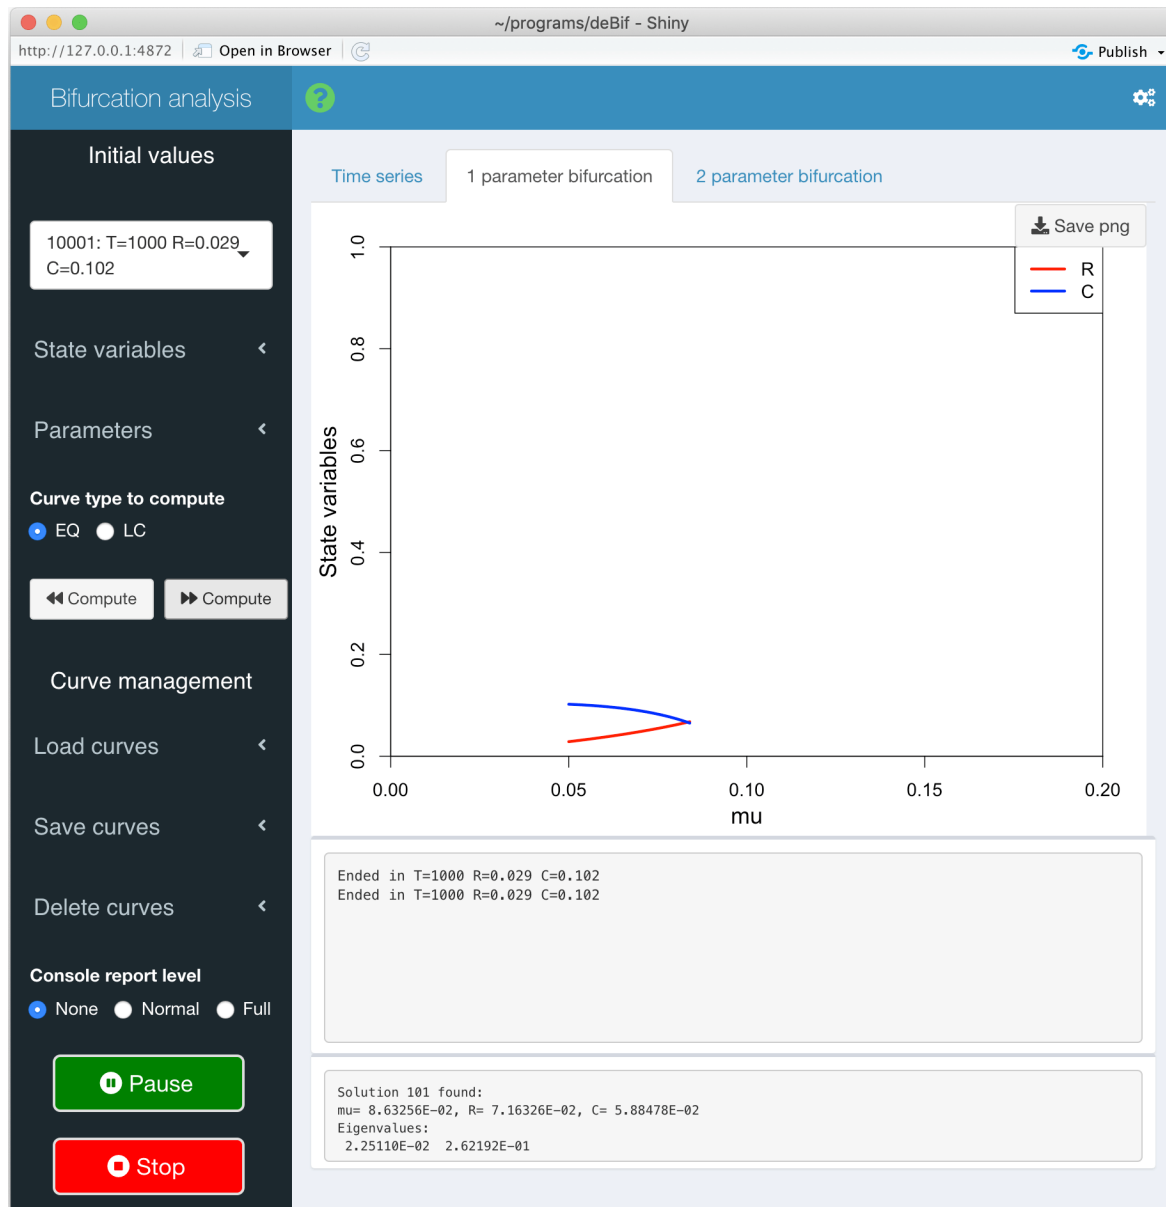

Figure 15: The 'bifurcation()' application while it is busy computing an equilibrium curve
Computations are started by clicking either the `<<Compute` or the `>>Compute`, which will start to compute the equilibrium curve originating from the initial point in the direction of lower and higher values of the bifurcation parameter, respectively. During the computation of a curve a `Pause` and `Stop` button are displayed in the left sidebar (see Figure 15) with which the computation can be temporarily halted or stopped altogether. The progress window at the very bottom of the tab sheet `1 parameter bifurcation` reports on the solutions that are found and, importantly, also reports on the eigenvalues that characterize the dynamics in the neighborhood of the equilibrium. Inspection of these eigenvalues allows for checking whether or not the computed steady states are stable or unstable.
Computations of equilibrium curves will halt when the maximum number of solution points along the curve has been reached or when the values of the state variables in the equilibrium point are reaching values outside the range of values currently shown on the  $x$ - and  $y$ -axis. The default number of solution points along a curve is by default equal to 500, but can be changed (see section 3.2.3). Figure 16 shows the completed equilibrium curve, of which the initial part was already shown in Figure 15. This complete equilibrium curve has been constructed by 1) first starting the continuation of this curve to lower values of the bifurcation parameter  $\mu$ ; 2) subsequently continuing this curve to higher values of the bifurcation parameter  $\mu$ ; and finally, 3) Selecting the final solution point of the latter curve (point number 501) as initial point for the next calculation and computing once again forward to higher values of the bifurcation parameter. As Figure 16 shows two bifurcation points are detected during these computations: a Hopf bifurcation point (HP) at a value of the bifurcation parameter around 0.03 and a trans-critical bifurcation or branching point (BP) at a value of the bifurcation parameter around 0.10. Figure 16 also shows that the curve section to the left of the HP is plotted with a short-dashed line. This indicates that the equilibrium points on that section of the curve are unstable, that is, the eigenvalues characterizing the dynamics in the neighborhood of the equilibrium have a positive real part.